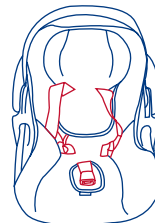

Fig. 35-1
3. Place the Safety Seat on a firm and level surface. Move the carry handle to the non rocking position. Loosen the Harness Straps by pulling on the straps while pushing on the Harness Adjuster Button located below the pad just in front of the buckle. Unfasten the Harness Chest Clip. Unbuckle the Harness Straps and drape the Harness Straps over the Seat back or to the sides of the Safety Seat. (Fig. 35-1)